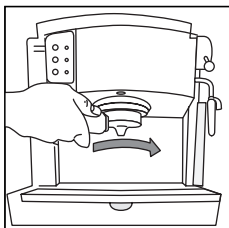

fig. 4
2. Attach the empty filter holder (without coffee) to the machine by positioning it under the boiler outlet with the handle towards the left (fig. 4). Push upwards and at the same time turn the handle as far right as possible. It does not matter if the handle is not centrally aligned with the machine, as long as the filter holder is firmly attached to the appliance.
4. Remove any excess coffee from the rim of the filter holder. Attach the filter holder to the machine by positioning the handle to the left of the boiler outlet, then pushing upwards and turning the handle to the right (as in preheating the machine fig. 4).
5. Attach the filter holder to the appliance. Always rotate as far as it will go (fig. 4).